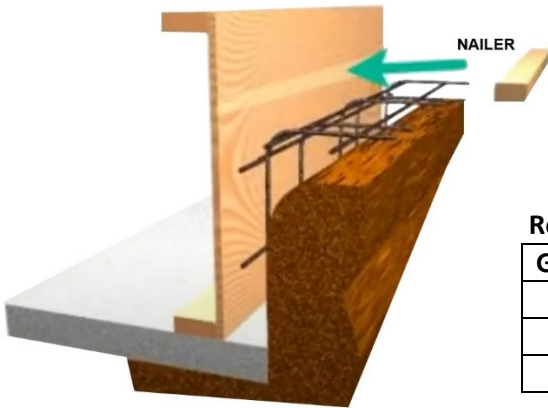

Figure 2
Step 1: Attach nailer to the trench form. Securely attach a wooden nailer to the trench form on the side where the grating will fit into the fiberglass rail. See chart for recommended nailer size. *Figure 2*